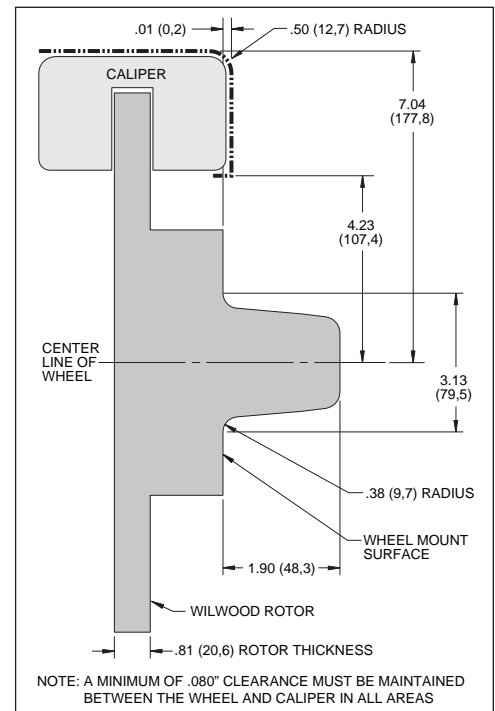

Figure 2. Wheel Clearance Diagram
- Verify wheel clearance utilizing figure 2.